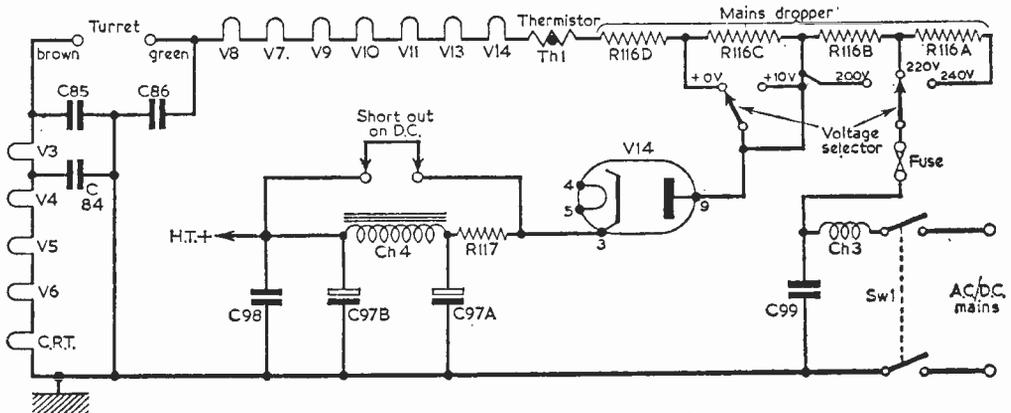

Fig. 8—The power supply circuits of a typical receiver, showing also the heater chain.
H.T. trouble is not so obvious, and will usually require a voltage check on H.T. line or on the cathode of the H.T. rectifier valve. In Fig. 8 is shown a typical H.T. circuit and a series-connected heater chain. A.C. or D.C. mains is applied to the rectifier anode, either direct from the source or through sections A or B or both of the mains dropper resistor, depending on the setting of the mains voltage selector. Resistor R117, in the cathode circuit of V14, serves as a surge limiter, while Ch4 is the smoothing choke and C97A/B are the reservoir and smoothing capacitors respectively. C98 is an R.F. decoupler.